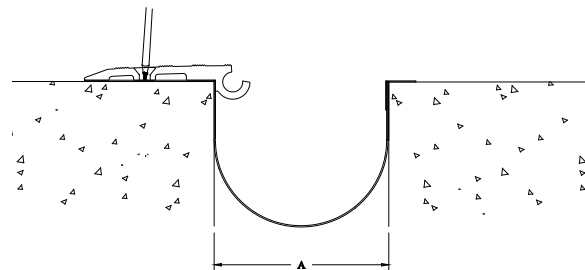

Figure 7
STEP 7. Select a section of the base member. Place the base member into its installed position. Ensure that the base member is straight, level, and properly aligned. Using the base member as a template, mark the location for the anchor holes on the concrete. Remove the base member from its position and drill the anchor holes at the marked locations (Figure 7).